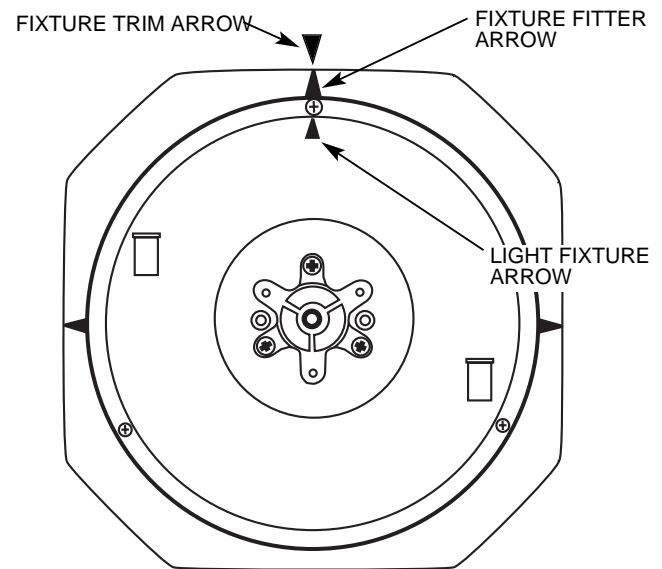

Figure 9D
Before assembling the light fixture to the fixture fitter locate the arrow shaped hole positioned directly behind one of the (3) screw clearance holes on the outside flange of the light fixture. See Figure 9D.
Align the arrow in the light fixture with the arrows previously used to align the fan trim and fixture fitter. See Figure 9D.